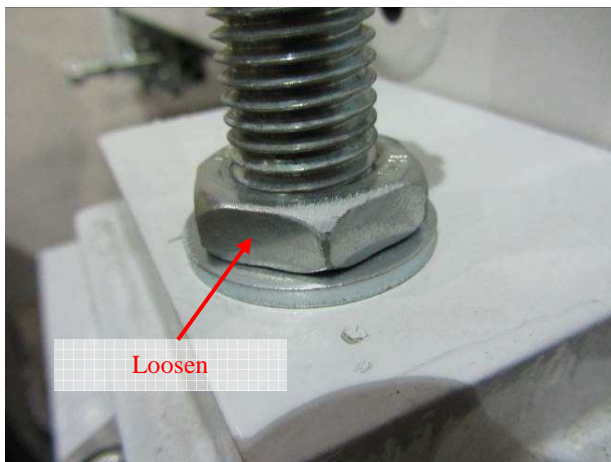

Figure 3
3. Screw the lock nut out of the way, lift the flat washer and, using a marker pen, mark the position of the adjustment screw (see figures 3 and 4).